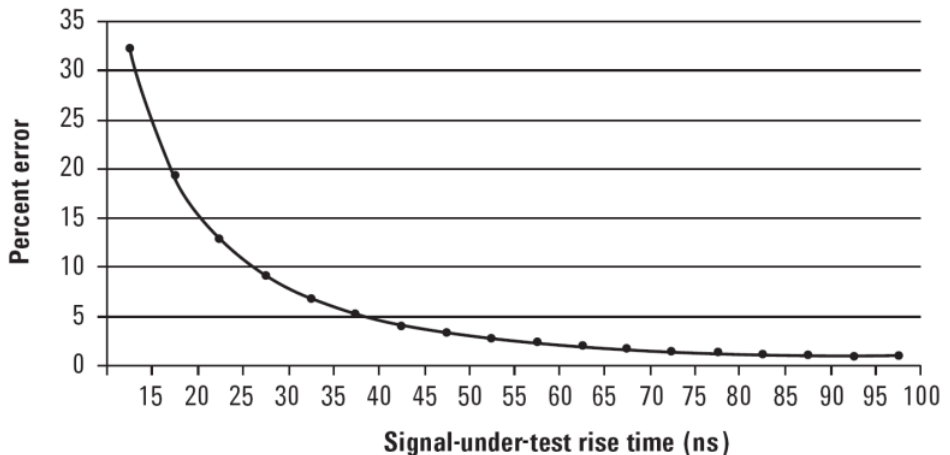

Figure 2-1 Measured rise time percentage error versus signal-under-test rise time
- Rise/fall time: ≤ 13 nsecs \pm % error (Refer to Figure 2-1) [With the video bandwidth turned off, the measured signal frequency is ≥ 500 MHz.]